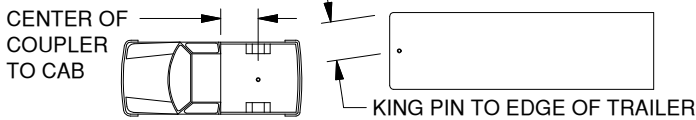

Figure D4: Truck and Trailer
- Evaluate clearance.** Determine if there is clearance between each truck and trailer combination before towing. Measure from the center of the coupler to the cab of the truck and from the king pin or pivot point of the trailer to the furthest forward corner of the trailer, see Figure D4. Compare these measurements to ensure proper clearance when towing. Also, inspect the clearance between the bed sides and the underside of the front of the trailer to ensure there is room for the pitch and roll of the trailer while towing.